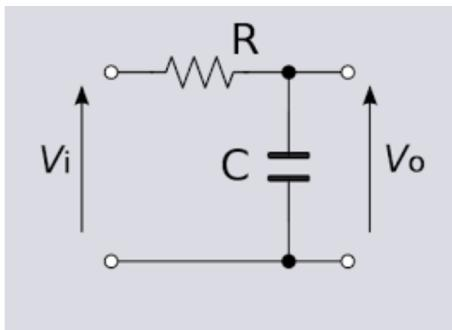

Figure 1.7: Typical RC circuit.
Figures. 1.7 and 1.8 show the RC circuit and PC scope
- Build an RC circuit as shown in the Fig. 1.7 on the bread board.